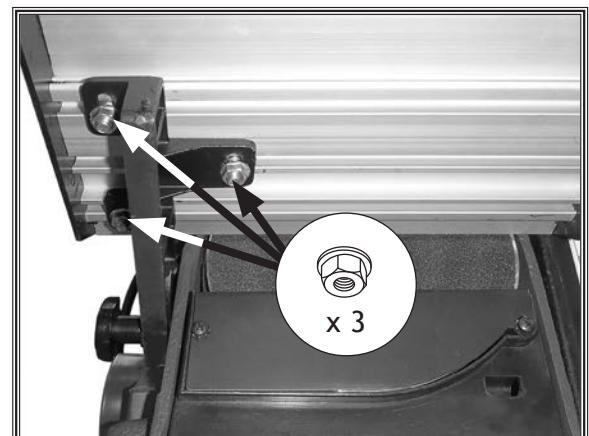

Figure 28. Work table alignment nuts.
4. Loosen flange nuts shown in **Figure 28**, and adjust table so distance "A" equals distance "B" (see **Figure 27**), with not more than a $\frac{1}{16}$ " gap between table and sanding disc.